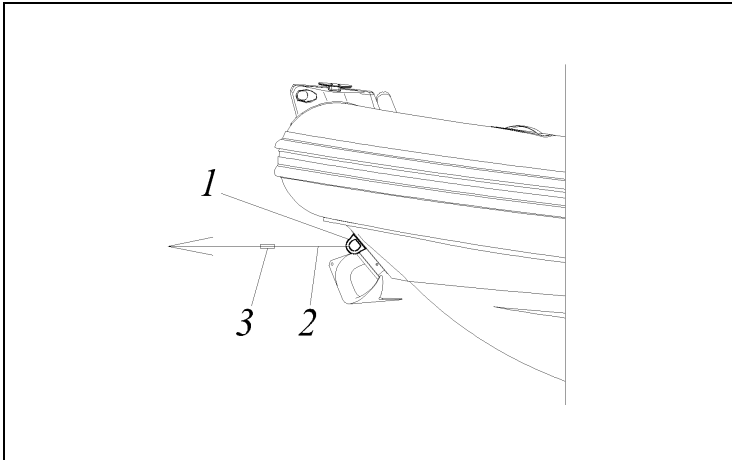

Fig.12
There is U-bolt in the bow ((1) Fig.12) of your boat for towing. On some boat modifications, two U-bolts can be installed. Use both U-bolts at the same time to tow your boat. The towing rope (2) must have a hook (3) to quickly disconnect your boat from the tugboat. This rope is not supplied by the manufacturer. You must purchase it yourself from BRIG dealers. U-bolt for towing is designed for a maximum horizontal load of 23kN.